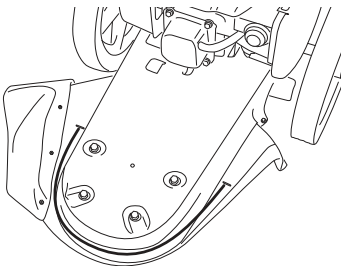

Figure 12
7.5.4 Cut the length of the trimmer line to 546mm (21.5"). Use the length guide located on the shield to make sure the trimmer line is the correct length. (See Figure 12).